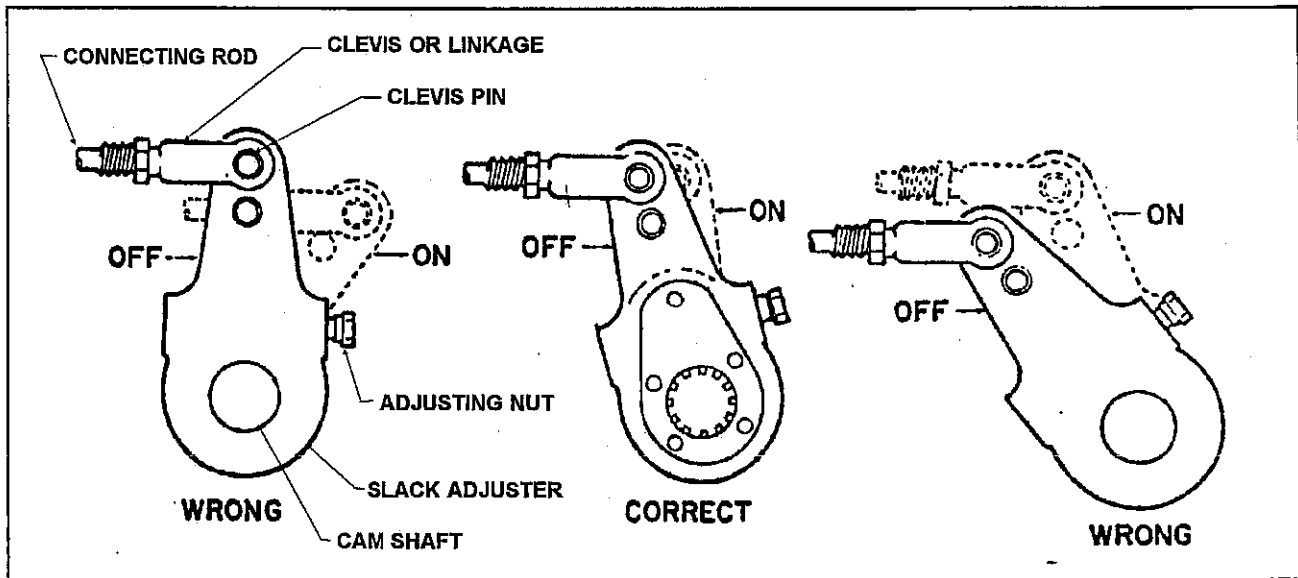

Fig. 4-3 Slack Adjuster
2. Adjust the slack adjuster until the brake lining comes into contact with the brake drum (see Figure 4-3).
The semitrailers automatic slack adjusters provide the means for routine brake adjustment to compensate for lining wear. Inspect slack adjusters every 2,000 miles to assure correct operation. Follow these procedures to replace slack adjusters (see Figure 4-3).